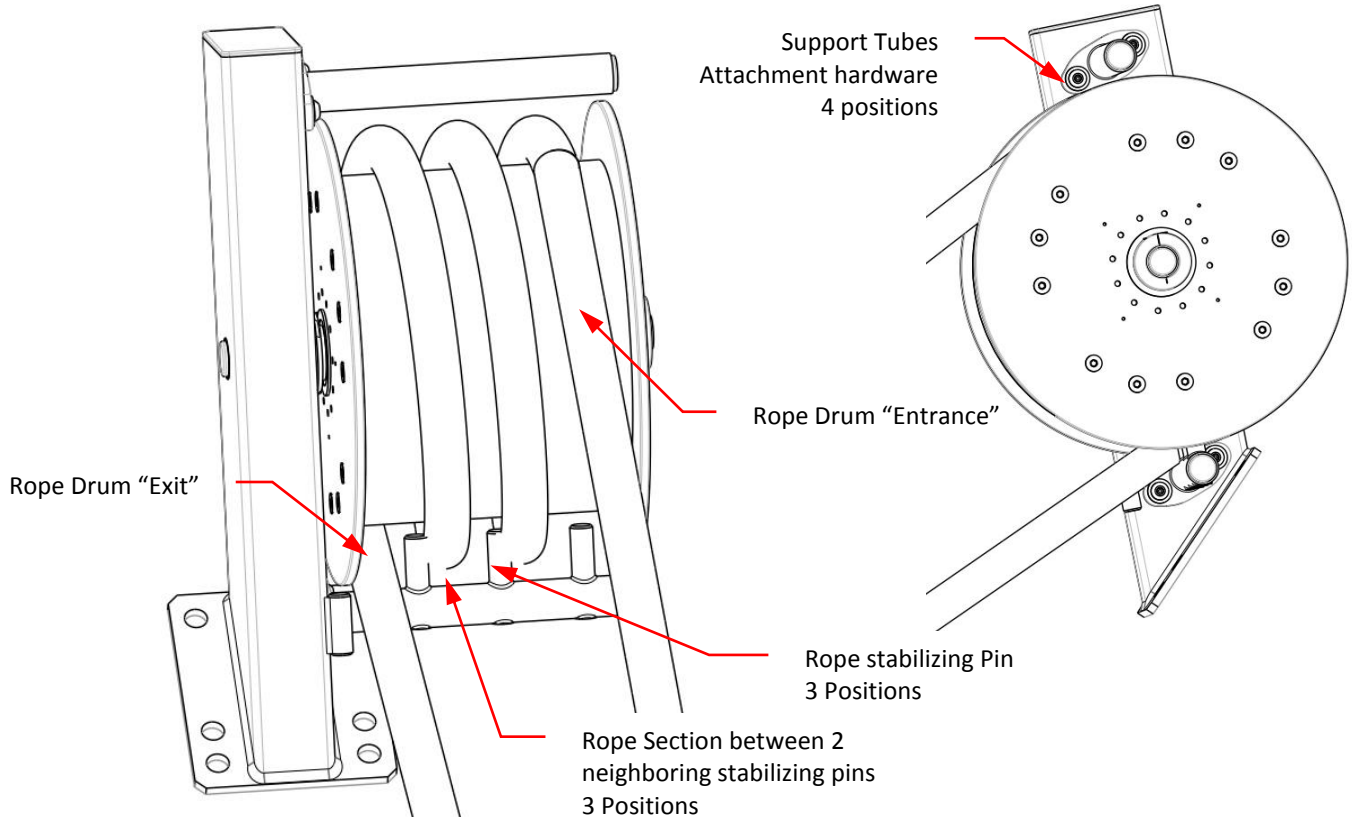

Figure 3: OX2 Rope Replacement
- 1-3 Wind rope around the drum as shown in Figure 3